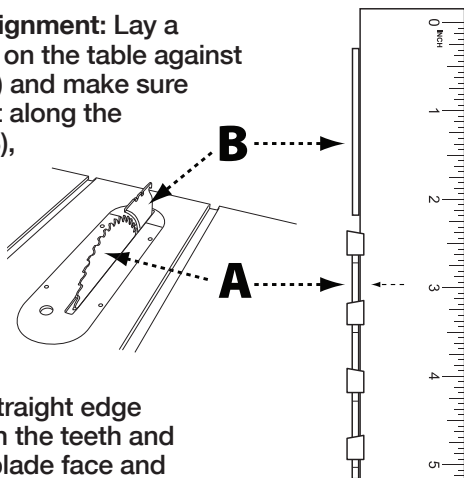

FIGURE 17a
1. **Horizontal Alignment:** Lay a straight edge on the table against blade face (A) and make sure it extends out along the riving knife (B), as shown in Figure 17a. The riving knife should just touch the straight edge.